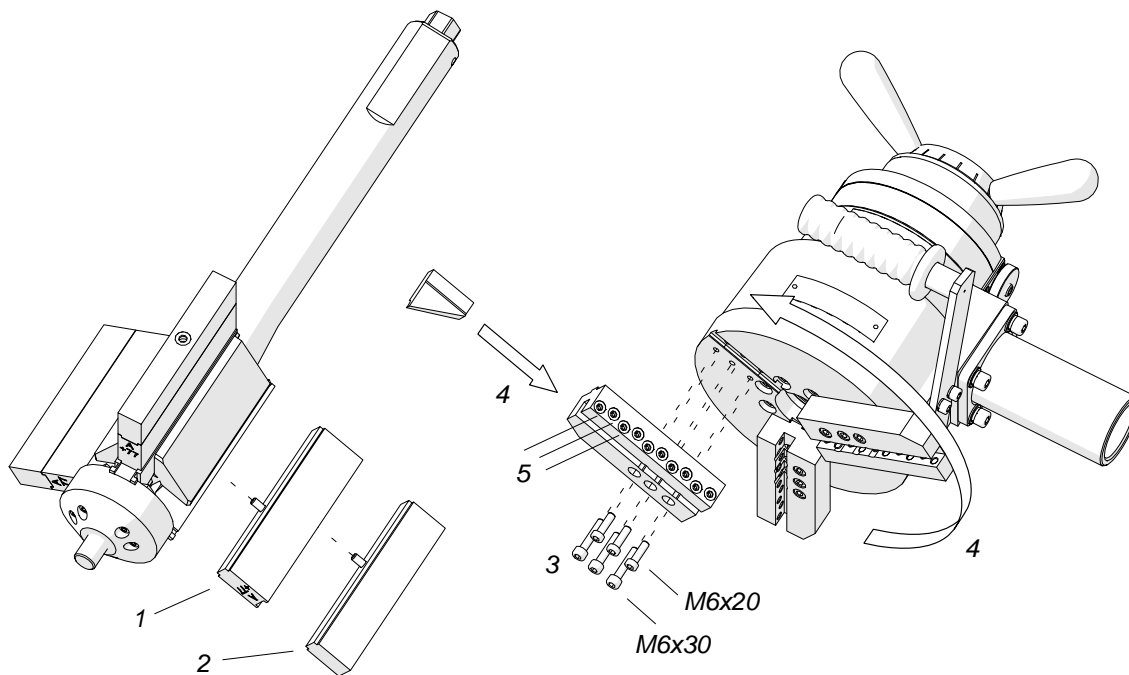
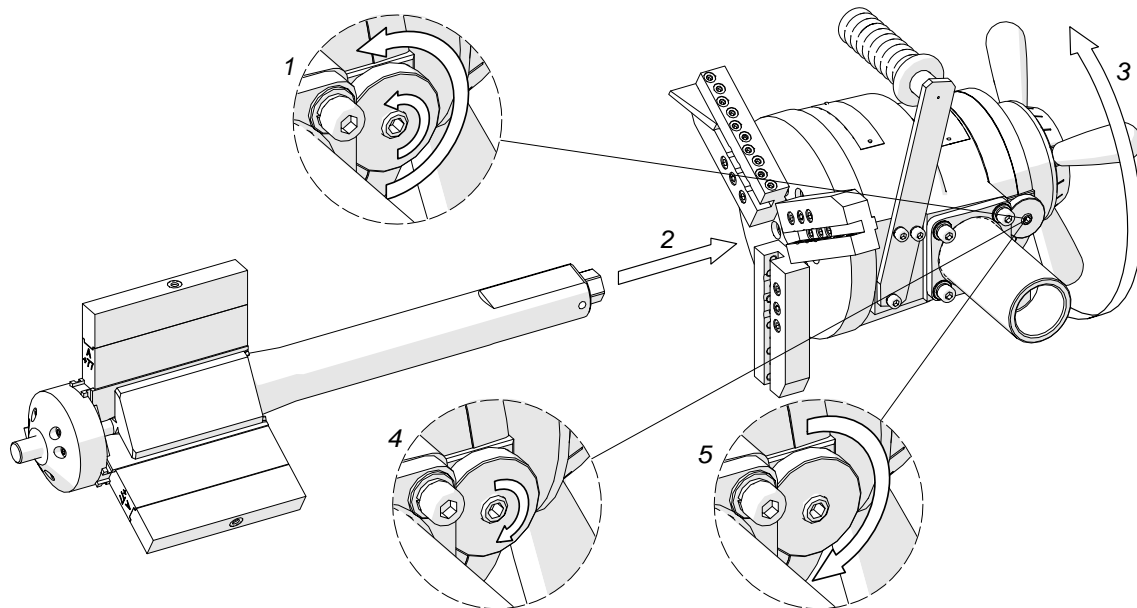

Fig. 2. Mounting the jaw blocks, adapters, tool holders, and tool bits
Fig. 3. Mounting the mandrel into the machine
Use the 5 mm hex wrench to screw the adapters (1, Fig. 2) and the jaw blocks 2 to the expanding mandrel.
Loosen the nut and use the 5 mm hex wrench to loosen the set screw (1, Fig. 3), and insert the mandrel into the machine (2). Rotate the spoke handles clockwise (3) by at least 10 turns until the mandrel engages with the machine completely. Then, tighten the set screw (4) and check whether the spoke handles can be rotated in both directions easily. If the screw is too tight, readjust it. Finally, tighten the lock nut (5).
To dismount the mandrel, loosen the nut and use the 5 mm hex wrench to loosen the set screw (1, Fig. 3) to at least one turn. Then, rotate the spoke handles counterclockwise to disengage the mandrel from the machine.
Install the mandrel after previously removing the existing expanding mandrel. To do this, loosen the nut and use the 5 mm hex wrench to loosen the set screw (1, Fig. 3) to at least one turn. Then, rotate the spoke handles counterclockwise to disengage the mandrel from the machine.
Then, use the following table to select jaw blocks of the small expanding mandrel set suitable to the inside diameter of the pipe to be machined, use the 3 mm hex wrench to tighten them to the small expanding mandrel as shown in Fig. 2, and mount the mandrel into the machine (2, 3, 4, 5, Fig. 3).
Install the set after previously removing the existing tool holders. To do this, use the 5 mm hex wrench to unscrew the screws (3, Fig. 2) and use them to mount the tool holders of the extension set.
Use the following table to select jaw blocks of the extension set suitable to the inside diameter of the pipe to be machined, and use the same 5 mm hex wrench to tighten them to the standard expanding mandrel as shown in Fig. 2. Then, mount tool bits in holders by tightening the screws (5, Fig. 2) using the 4 mm hex wrench.
Use the following table to select either standard jaw blocks suitable to the inside diameter of the pipe to be machined or jaws blocks of the extension set for flange facing. Then, use the 5 mm hex wrench to tighten them to the large expanding mandrel as shown in Fig. 2, and mount the mandrel into the machine (2, 3, 4, 5, Fig. 3).